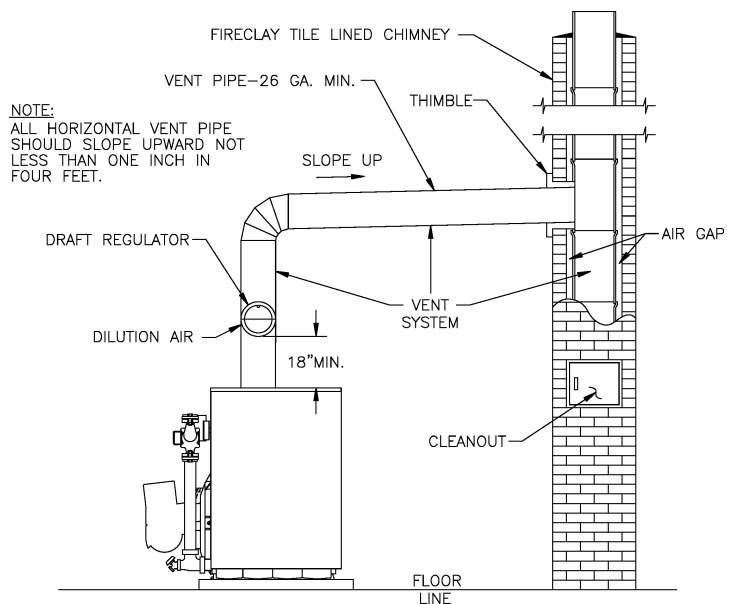

Figure 7: Recommended Smokepipe Arrangement and Chimney Requirements
G. INSTALL SMOKEPIPE — The CLW should be vented into a fireclay tile-lined masonry chimney or chimney constructed from type L vent or a factory built chimney that complies with the type HT requirements of UL103. The chimney and vent pipe shall have a sufficient draft at all times, to assure safe proper operation of the boiler. See Figure 7 for recommended installation.